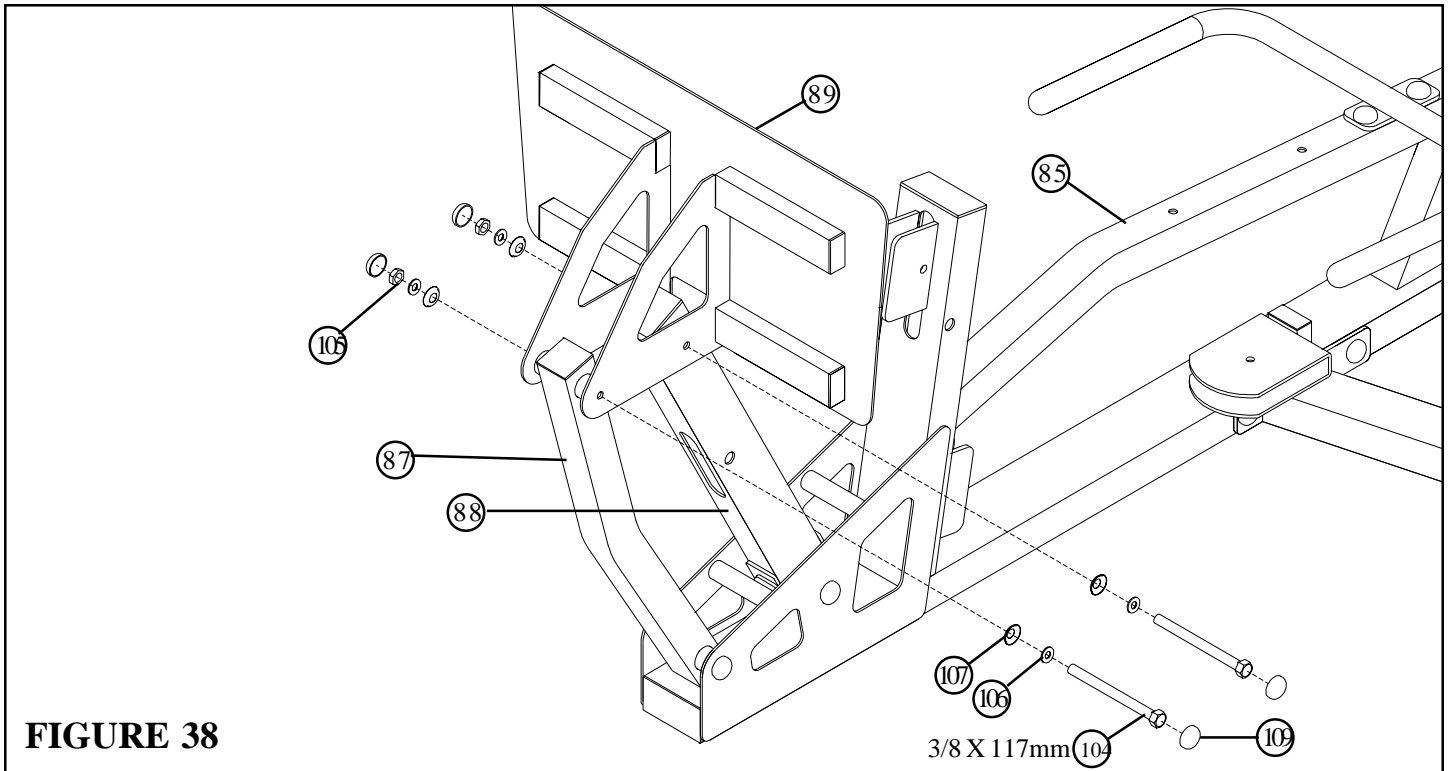

FIGURE 38
- **SECURELY** assemble the FOOT PLATE (89) to the MAIN & SECONDARY PIVOT ARMS (87 & 88) using four RH CAPS (109), two 3/8 X 117mm BOLTS (104), four 3/8" SAE WASHERS (106), four 3/8" RH WASHERS (107), and two 3/8" LOW HEIGHT LOCK NUTS (105) as shown in FIGURE 38.